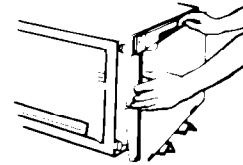

FIGURE 8
6. Lay two carton corner posts or other protective material (such as a throw rug) on the floor, then lay the unit on either of its sides on the corner posts. The corner posts will protect the finish of the compactor and the floor. *See Figure 8.* **NOTE: Do not truck or handle by console.**
Remove the cardboard shipping pad located on the bottom. *See Figure 8.* Stand compactor upright.